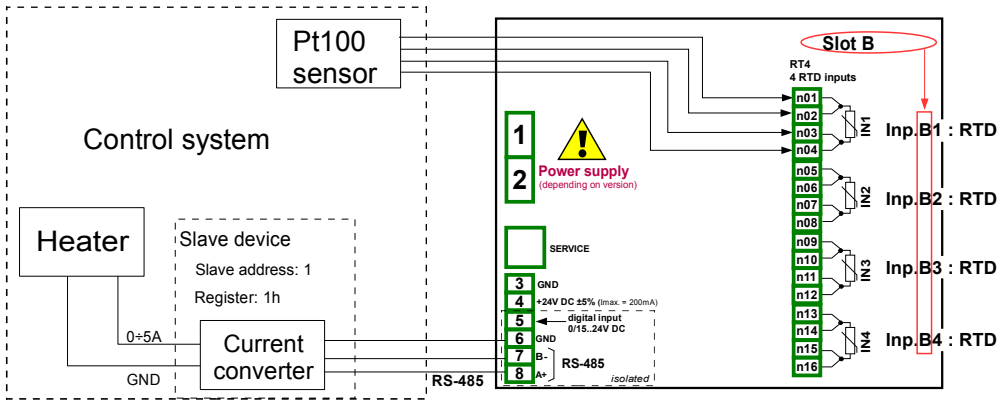

Fig. 7.72. Schematic diagram for the RT4 module and MB1 Modbus port
Before measuring and regulating the temperature, user should configure the device as follows and then connect the thermocouple sensor and Current converter to the device. An example of the connection is shown in **Fig. 7.72**.
- **Source** parameters set as **Inp.A1 : RTD** (see **Fig. 7.72**),
- **Precision** parameters set as **0.00** , because with this precision we can send signal from controller to Current converter (see **Fig. 7.72**),